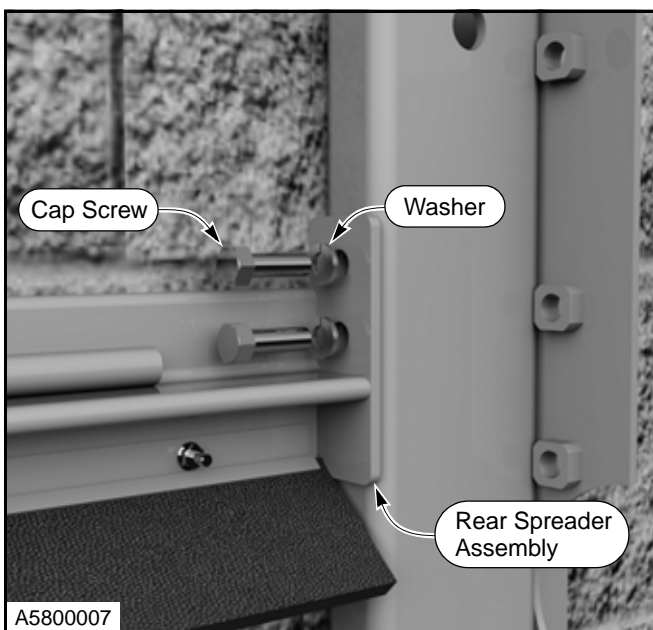

Figure 13
6. Install rear spreader assembly between the two side columns using four 1/2 x 1-in. hex head cap screws and 1/2-in. lock washers. (See Figure 13.)